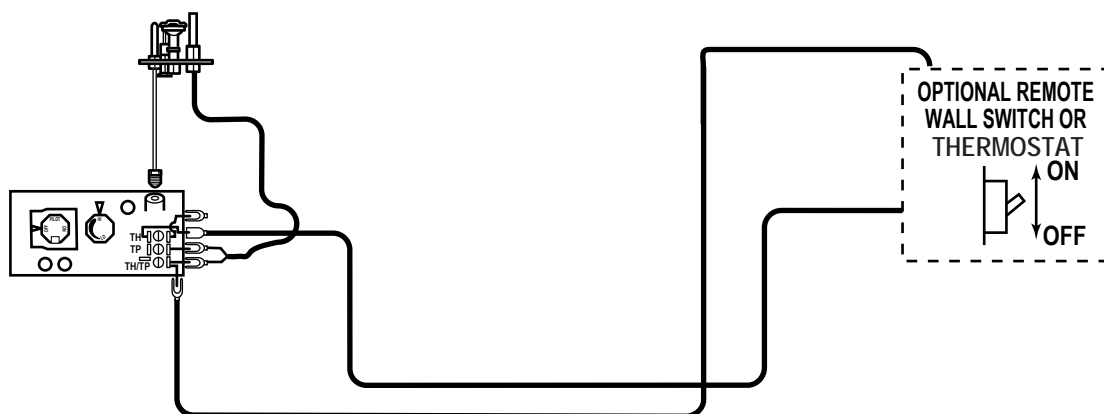

Figure 15 - Wiring Diagram for Wall Switch
A remote wall switch and up to fifteen (15) feet of 18 Ga. wire may be used with this appliance. Attach the wall switch in a junction box at the desired location on the wall. *See Figure 15.*